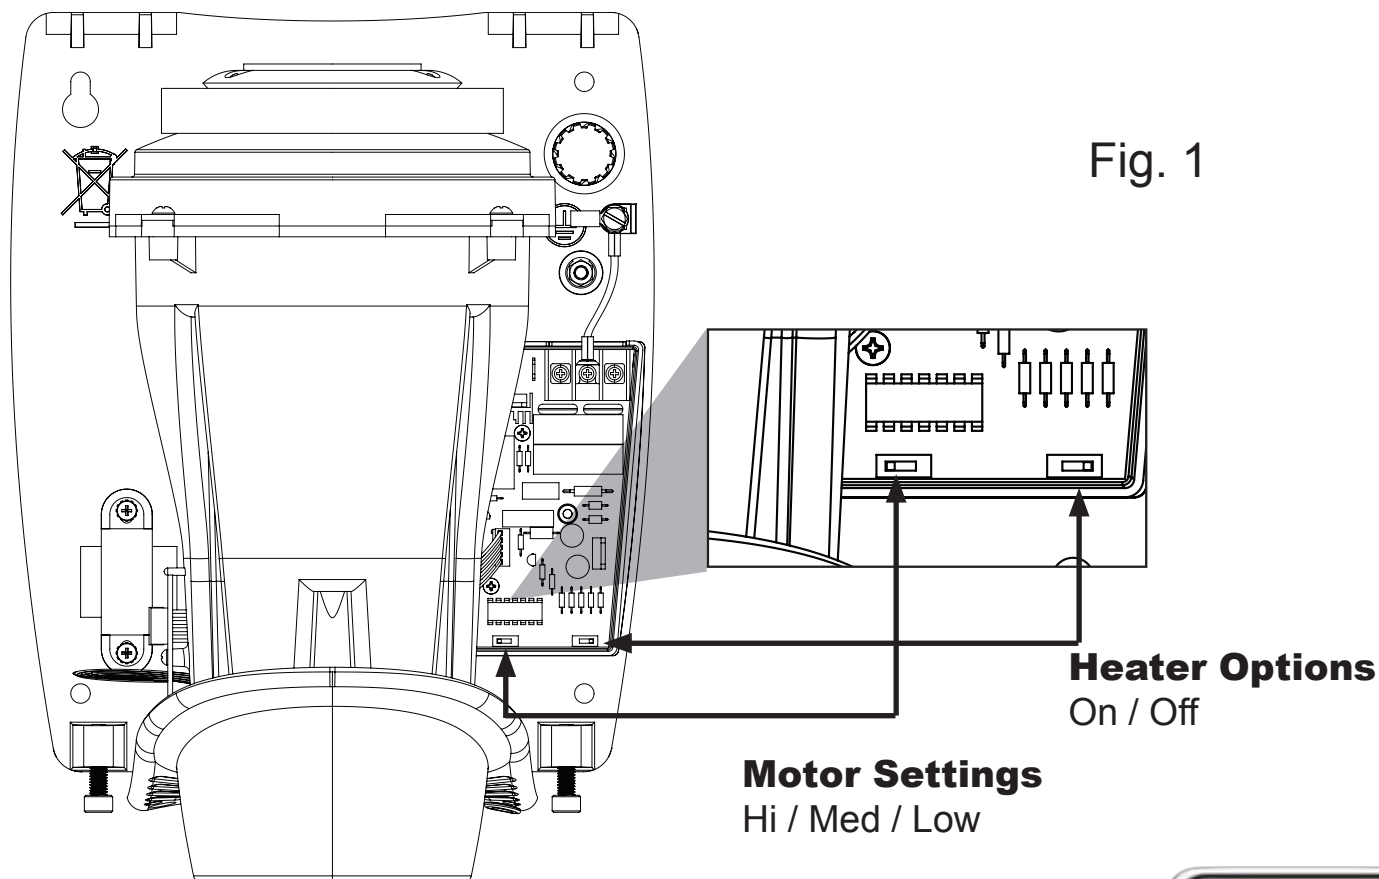

Fig. 1
3. Remove the wiring compartment cover to access the adjustable controls (see Fig. 1).